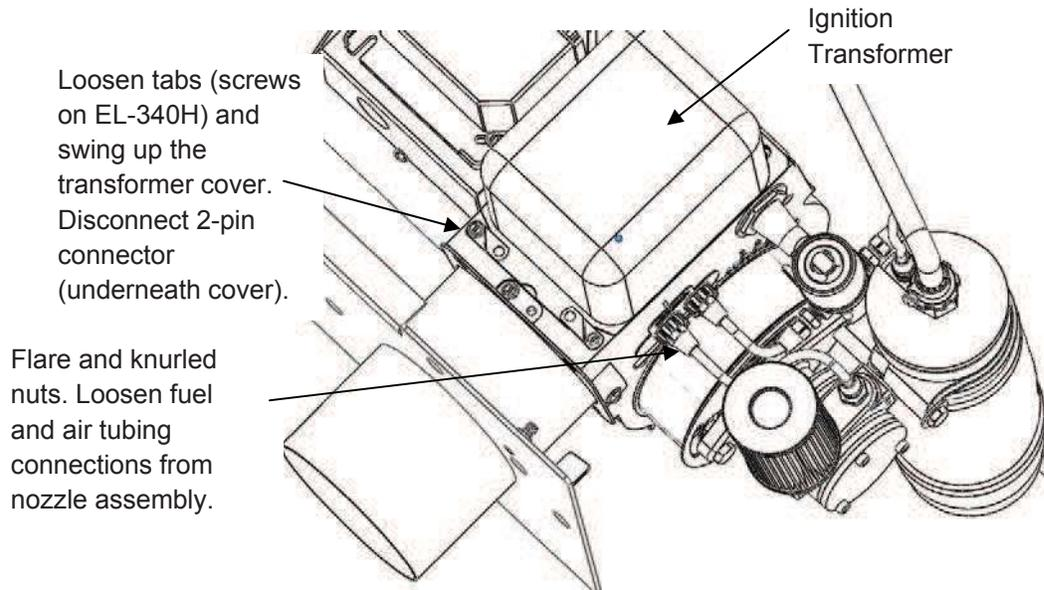

Figure 54 Disconnecting Nozzle Block
### Procedure - All Models (Refer to figures 54 - 59):
4. Using a 17mm boxed-end/12-pt.wrench, remove the knurled nuts from the Nozzle Block (refer to figure 54).